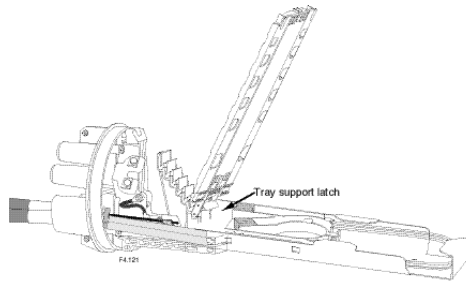

Figure 15
2. If multiple trays are present, fill the bottom tray first. Use the tray support attached to the bottom of the second tray to hold it out of the way. (Figure 15)